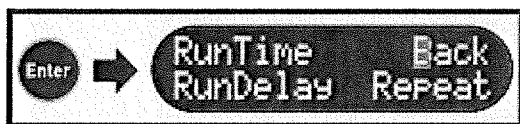

Figure 17: Timed run sequence (2)
- 3.2.6 On the 'Setup' menu screen press **Select** twice to highlight the 'RunTime' option, and press **Enter** to display the 'RunTime' menu screen (Figure 17).